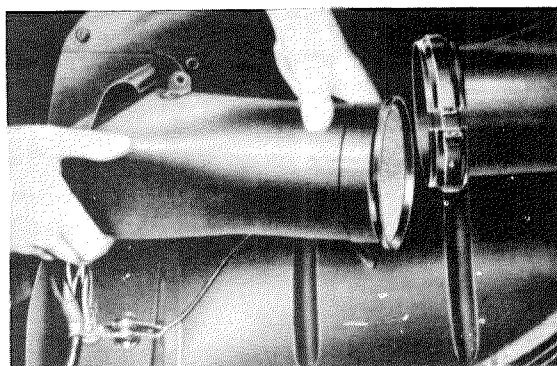

Fig. 83—4/2
6. Remove the scoop and the blower, if one is fitted (Fig. 83—4/2).
7. Unscrew the three fixing screws (1) of the blower together with lock washers (2) and washers (3) from the scoop and pull out the blower (see Fig. 83—4/3).